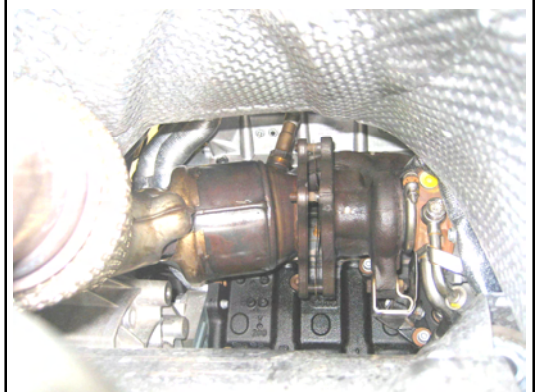

Figure 1
2. Unbolt the flange shown on figure 1 and set the hardware and gasket aside for use during the installation of your new Off Road Down Pipe.